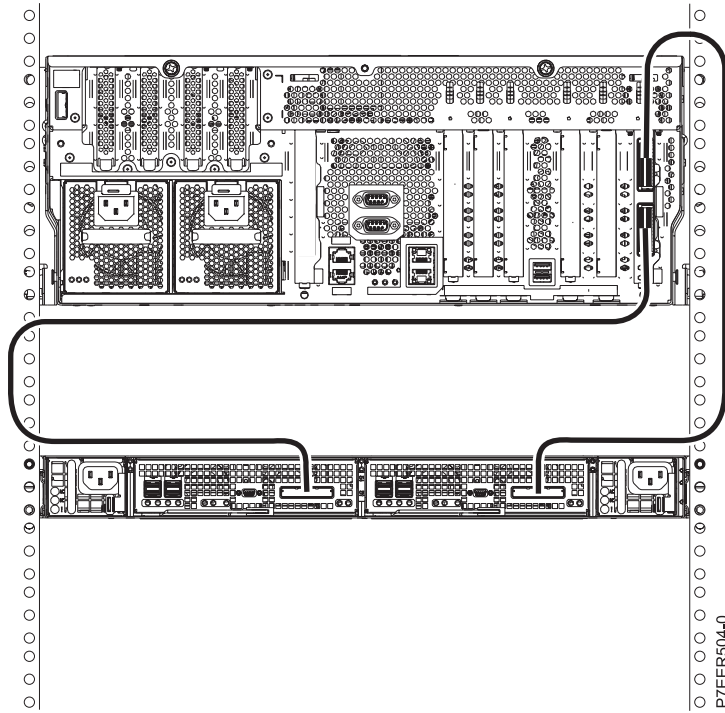

Figure 9. One EDR1 PCIe storage enclosure connected to a single 8202-E4D or 8205-E6D system by using one FC EJ03 PCIe2 GX++ adapter and two PCIe cables
Figure 9 on page 10 shows one EDR1 PCIe storage enclosure connected to a single 8202-E4D or 8205-E6D system by using one feature code (FC) EJ03 PCIe2 GX++ adapter and two PCIe cables.